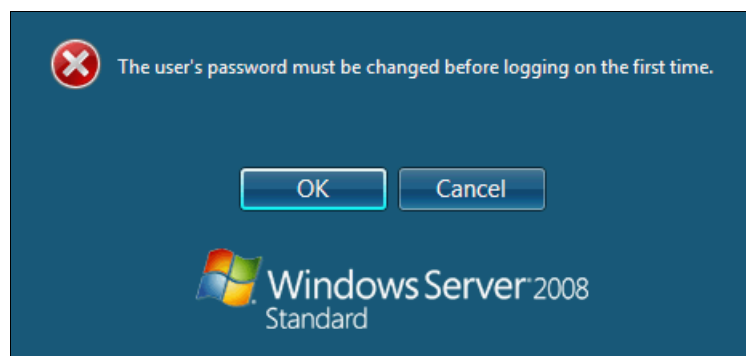

Figure 9-186 Prompt to enter a password
19. When Windows is done installing and you are prompted to enter a password (Figure 9-186), click **OK**, and then enter your password.